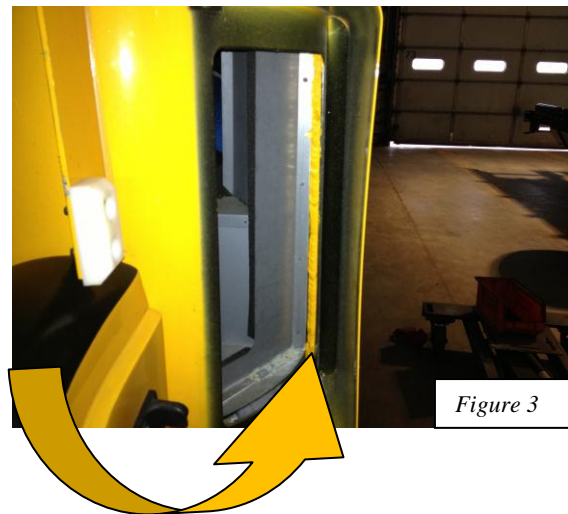

Figure 3
4. Using Manus-Bond 75-AN, apply a 3/8" bead of sealant the full length of accessible area where the cowl panel meets the post. *Figure 3*